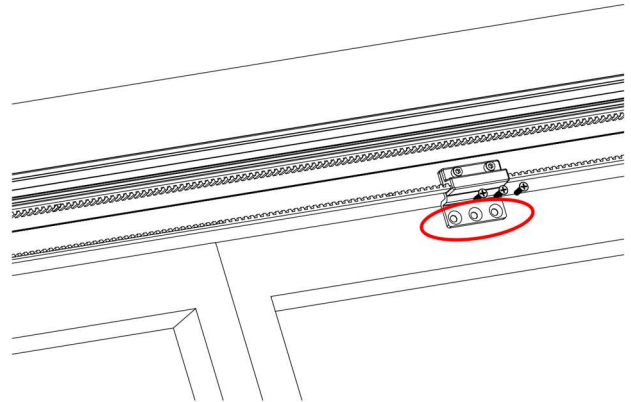

Figure 38: Drill three holes in the door for the bottom bracket.
3. Use the three holes in the **bottom bracket** to mark the positions of those holes on the door (Figure 38).
4. Drill 0.24" (6 mm) holes in the door at those three positions (Figure 38).